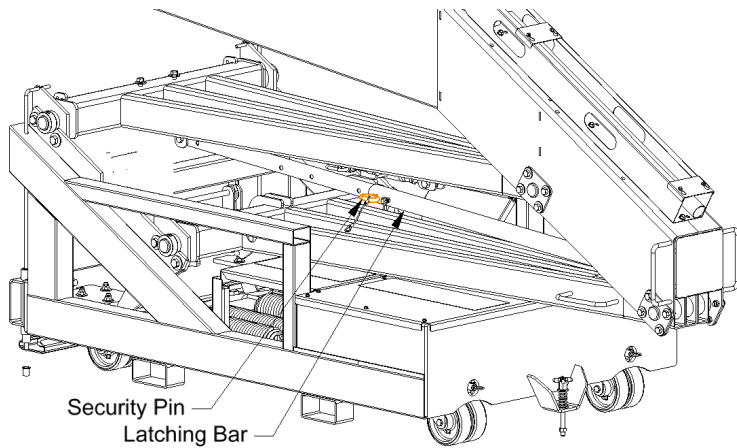
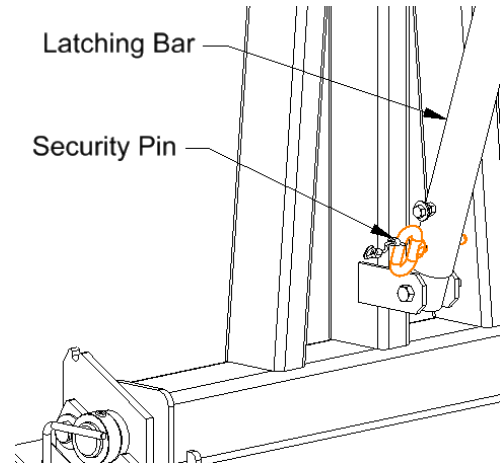

Figure 17 (Storage Position)
Figure 16 (Play Position)
- Remove the Security Pin from the Sliding Latch Bar, (figure 17) and raise the boom to the 10' -0" playing position. Insert the safety pin into the Sliding Latch Bar behind the Front Upright (figure 16).